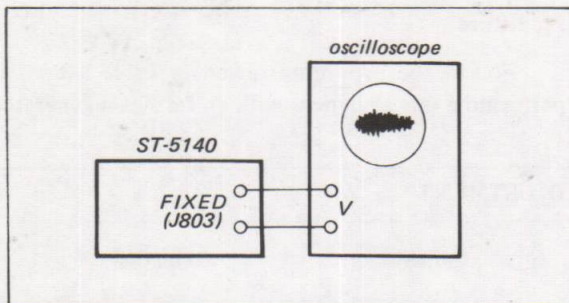

Fig. 3-3. Discriminator alignment test setup
1. With the equipment connected as shown in Fig. 3-3, set the tuner's control as follows: